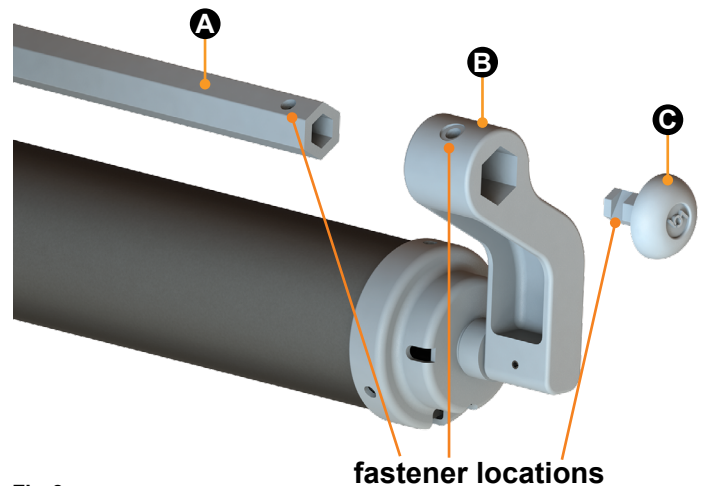
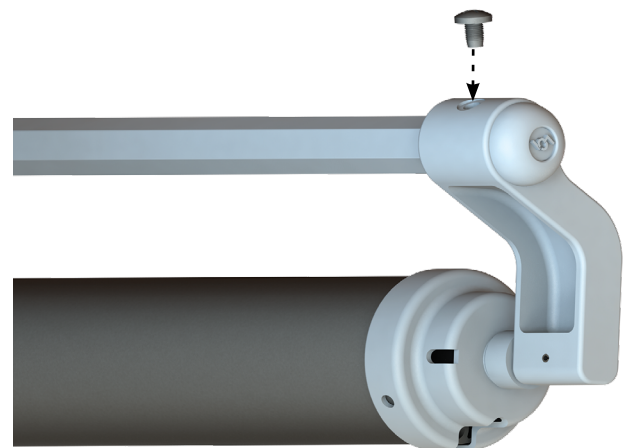

Fig.2
Fig.3
1. Slide the extension rod (Fig.2A) into the spring head assembly torsion arm (Fig.2B), aligning the fastener locations (Fig.2).
2. Slide the spring head assembly torsion arm end cap (Fig.2C) into the extension rod (Fig.2A), aligning all three fastener locations (Fig.2). Fasten using the provided 1/4" - 20 x 5/8" slotted pan head, self-threading screw (Fig.3).
8. Secure the second extension rod to the spring head assembly torsion arm using the provided ¼" - 20 x 5/8" slotted pan head, self-tapping screw (Fig.3).